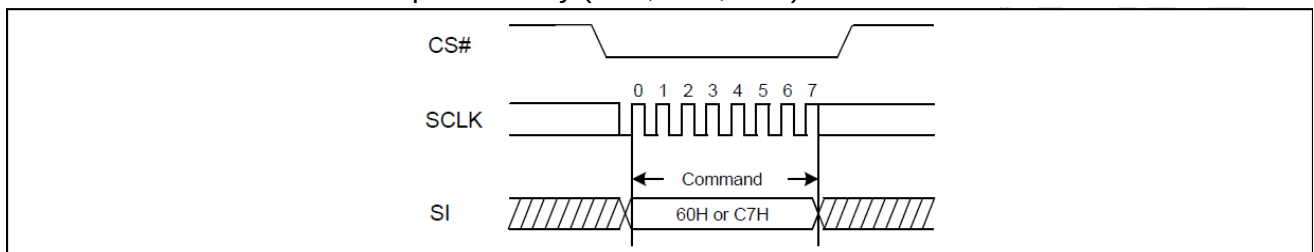

Figure10. Chip Erase Sequence Diagram
The Chip Erase command sequence: CS# goes low send Chip Erase command CS# goes high. The command sequence is shown in Figure10. CS# must be driven high after the eighth bit of the command code has been latched in, otherwise the Chip Erase command is not executed. As soon as CS# is driven high, the self-timed Chip Erase cycle (whose duration is t_{CE}) is initiated. While the Chip Erase cycle is in progress, the Status Register may be read to check the value of the Write In Progress (WIP) bit. The Write In Progress (WIP) bit is 1 during the self-timed Chip Erase cycle, and is 0 when it is completed. Write Enable Latch (WEL) bit is reset to 0 at the end of the Chip Erase cycle. The Chip Erase (CE) command is ignored if one or more sectors are protected by (BP2, BP1, BP0) bits.